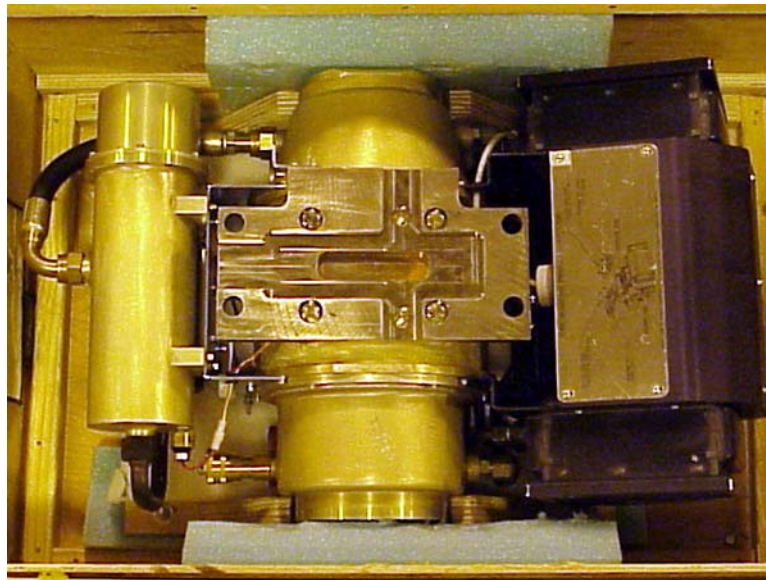

Figure 19 - Tube Shipped with Mounting Plate Attached
- 14.) If the new tube has a factory installed mounting plate (see Figure 19), **DO NOT REMOVE IT.** Skip steps 15 and 16.
2.) If the new tube has a factory installed mounting plate (see Figure 19 and Figure 1), **DO NOT REMOVE IT**. Skip to step 4.